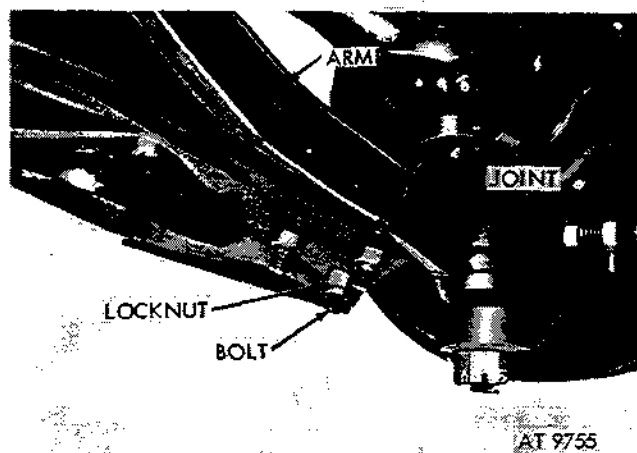
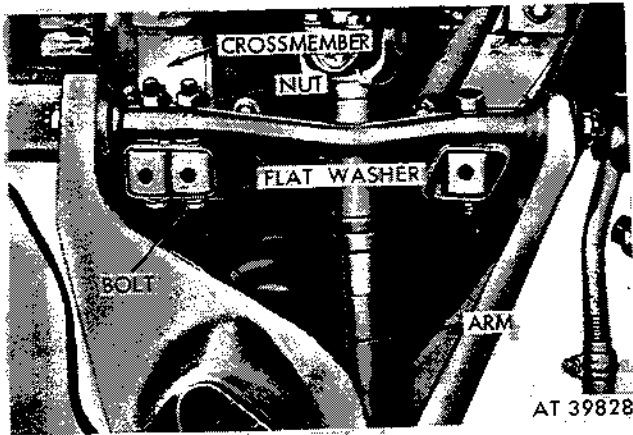

Figure 2-333. Remove suspension arm from lower ball joint.
Figure 2-334. Remove suspension arm from crossmember.
(1) Raise vehicle, remove wheel assembly, and position support under lower suspension arm.
(2) Remove shock absorber (para 2-144).
(3) Remove three bolts and locknuts securing suspension arm to lower ball joint (fig. 2-333).
(4) Remove coil spring (para 2-145).
(5) Remove three bolts, nuts and flat washer securing suspension arm to crossmember (fig. 2-334).